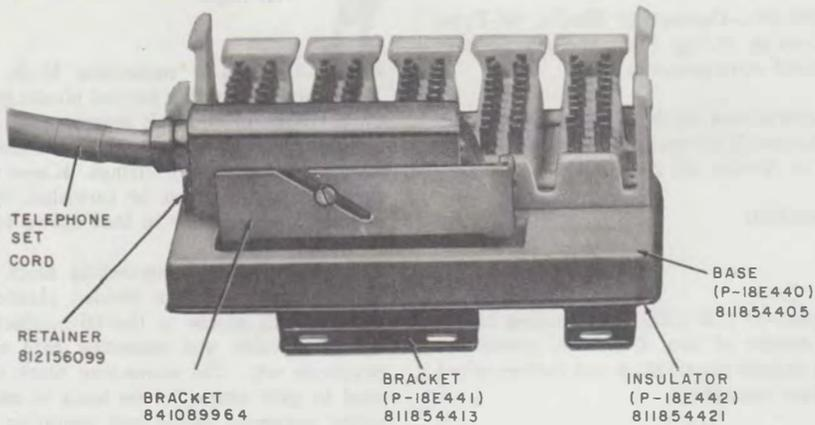

Fig. 2--66E4-25 Connecting Block
2.04 The 66E4-25 connecting block (Fig. 2) is equipped with a molded plastic base without cable trough or cover; it incorporates a mounting bracket which allows mounting in commercial type underfloor duct service fittings. Cover for 66E4-25 connecting block must be furnished by customer and should be similar to that shown in Fig. 5.